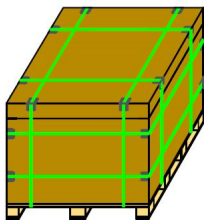

Figure 5-1 Requirements for temporary storage at the installation site
- When storing modules in a warehouse at the project site, please ensure that the storage environment is less than 85% humidity, the temperature range is $-40^{\circ}\text{C} \sim +50^{\circ}\text{C}$, and the modules are statically stacked for 1 box (as shown in Figure 5-1)